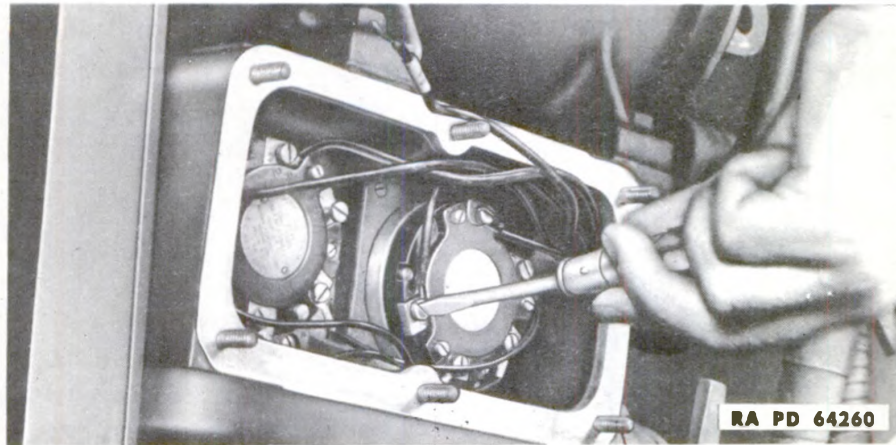

Figure 196 – Disconnecting Wires From Oil Gear Synchro Transmitters
(7) Remove the three screws securing the cable adapter to the housing (fig. 196) and withdraw the wires from the housing.